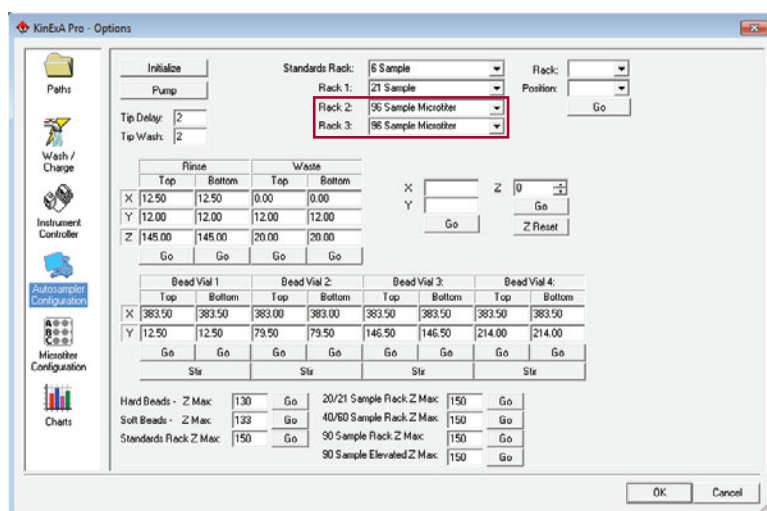

Figure 2. Autosampler configuration screen.
- Open the KinExA Pro software. Under the **Tools** menu, select **Options**. In the **KinExA Pro - Options** window select **Autosampler Configuration**. Designate Rack 2 and Rack 3 as either 96 or 24 Sample Microtiter or 48 Sample Microcentrifuge (**Figure 2**). Rack 2 is now the left hand plate and Rack 3 is the right hand plate.